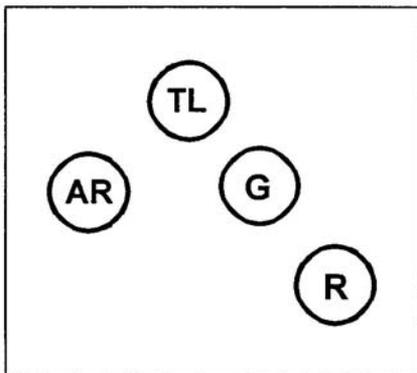

Figure 071-326-0501-1. Fire team wedge
b. Fire team modified wedge (figure 071-326-0501-2). When rough terrain, poor visibility, or other factors reduce control of the wedge formation, the sides are closed up to (almost) a single file. When moving in less rugged terrain and control becomes easier, resume your original positions. The modified wedge is also used for extended periods when traveling on roads or trails. The modified wedge—
- (1) Is easier to control in reduced visibility or rough terrain than are other formations.
- (2) Offers less flank security than a wedge but more than a file.
- (3) Masks fires initially to the front and rear for the majority of the team.